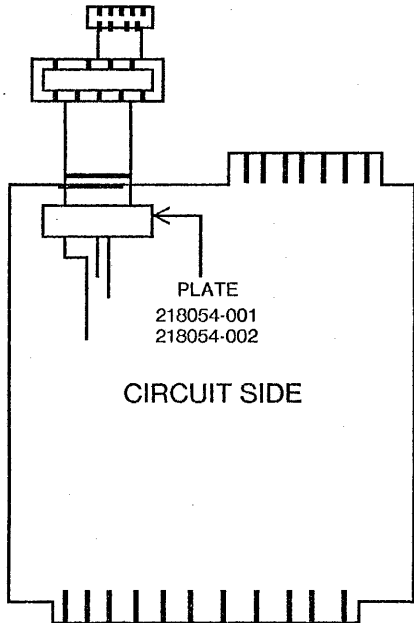
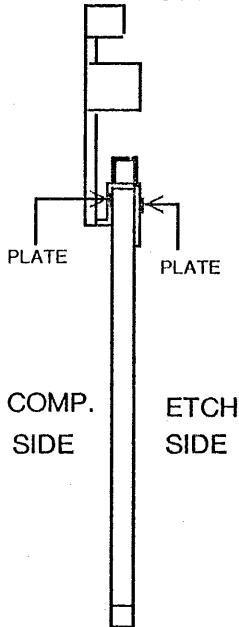

FIG. 1
FIG. 2
6.0 MOUNT CABLE ASSEMBLY (2533) AND PLATE ASSEMBLY (218054-001) PER FIG. 1 AND FIG. 2.